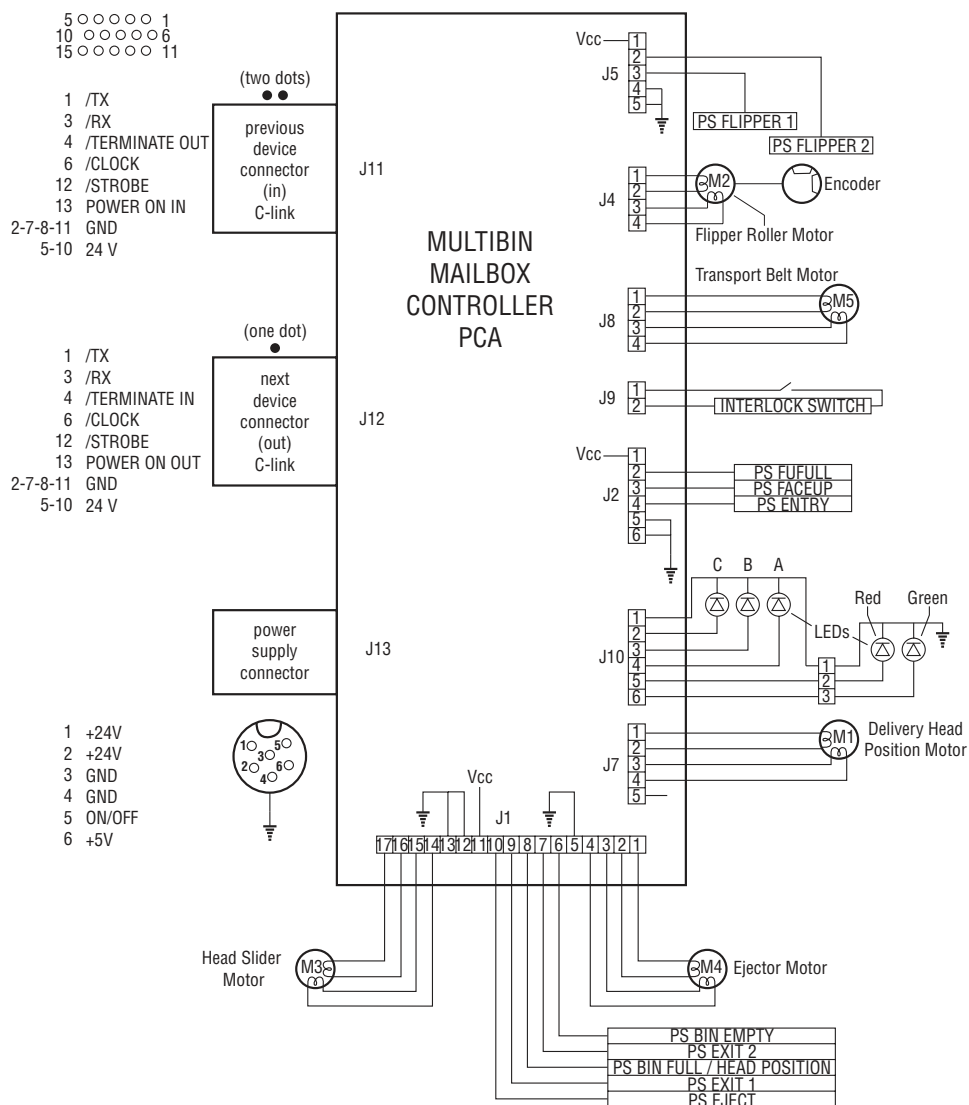

Figure 7-28 8-bin Mailbox Main Wiring Diagram
- Figure 7-28, “8-bin Mailbox Main Wiring Diagram,” on page 503
- ① : FACE-DOWN TRAY DELIVERY SENSE signal (/FDOUTS)
- ② : FACE-DOWN TRAY PAPER FULL SENSE signal (/FDDULS)
- ③ : FUSING UNIT DELIVERY SENSE signal (FPOUTS)
- ④ : TRAY 2 PAPER SIZE SENSE signal
- ⑤ : TRAY 3 PAPER SIZE SENSE signal
- ⑥ : TRAY 3 PAPER-LEVEL SENSE signal 1 (LVPS1)
- ⑦ : TRAY 3 PAPER-LEVEL SENSE signal 2 (LVPS2)
- ⑧ : TRAY 3 SENSE signal (/LDECKC)
- ⑨ : TRAY 3 PAPER-OUT SENSE signal (/LDECKS)